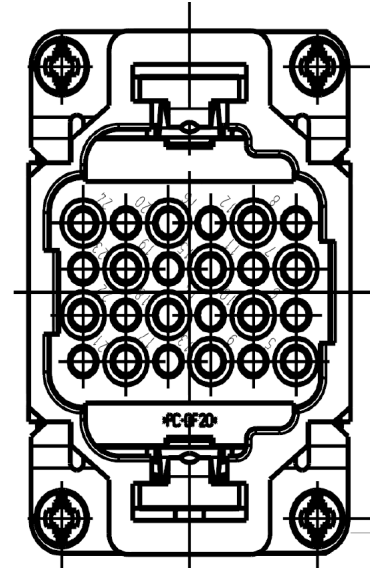

Fig. 3.23 Wiring of the valve, pressure switch and power supply customer interface
- Valve, fan and pressure switch interface, see fig. 3.23